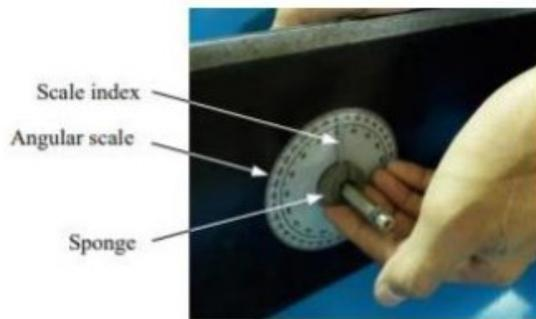

Figure 18. Install the sponge to seal air gap
1.4. Install the sponge to seal air leakage around the model holder gap inside the test section as Figure 18 above.